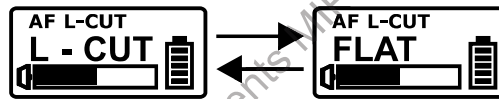

Fig. 11
- (B) AF L-CUT: AF Low-Cut Setting. Fig. 11
- (1) Select L-CUT or FLAT.
- (2) L-CUT: the frequency response at 100Hz will decrease about 3dB with a slope of -6dB/Octave.